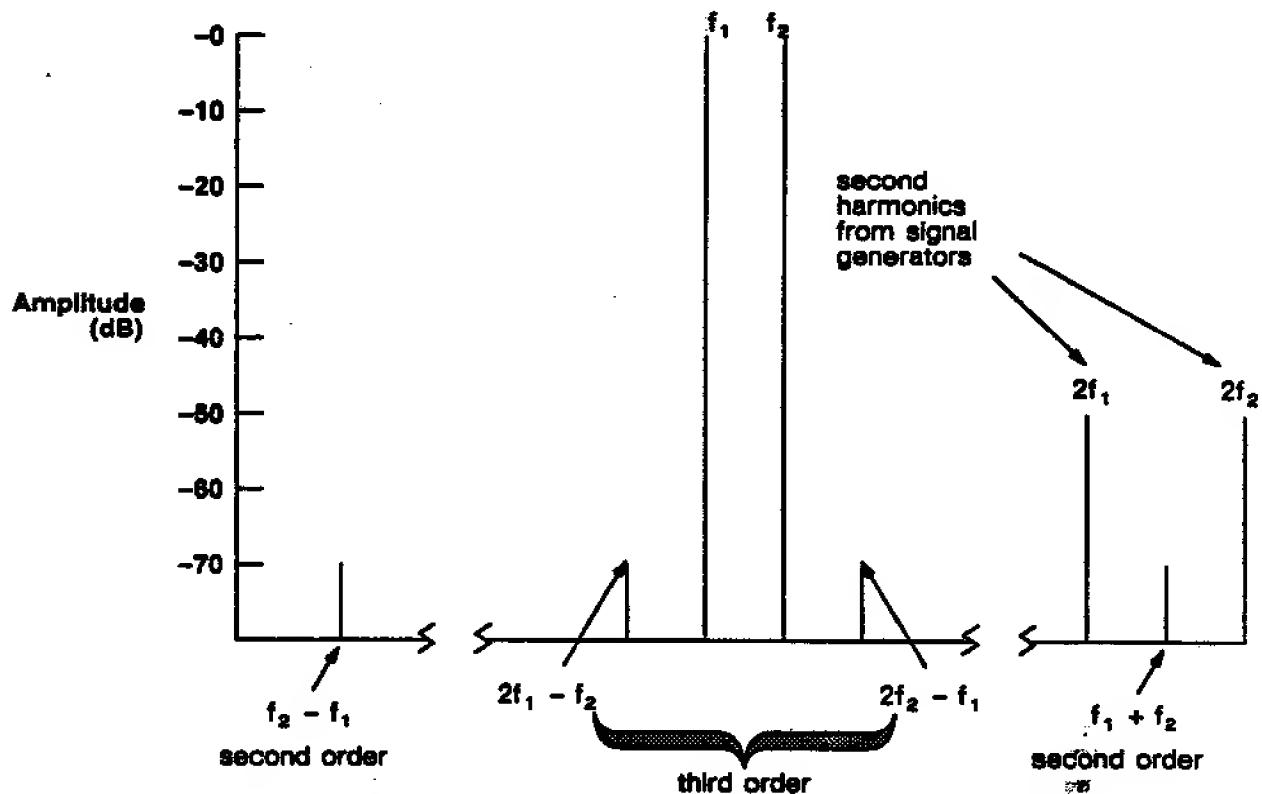

Figure 1-5. Spurious Response—Intermodulation Distortion Products
4. Adjust the frequency of both signal generators until signals are two divisions apart and centered on the analyzer display (CRT). Adjust generator output levels to -30 dBm, as displayed on the analyzer. Refer to the example display shown in Figure 1-5.
6. Referring to Figure 1-5 and the analyzer display, locate the third-order distortion products, which are approximately three divisions on either side of the signal generator fundamentals. The third-order distortion products ( $2f_2 - f_1$  or  $2f_1 - f_2$ ) must have an amplitude of less than -70 dBc.
8. Referring to Figure 1-5, locate the second-order distortion products ( $f_2 - f_1$ ), which are near the left side of the analyzer display. The second-order intermodulation products should be more than -70 dBc.